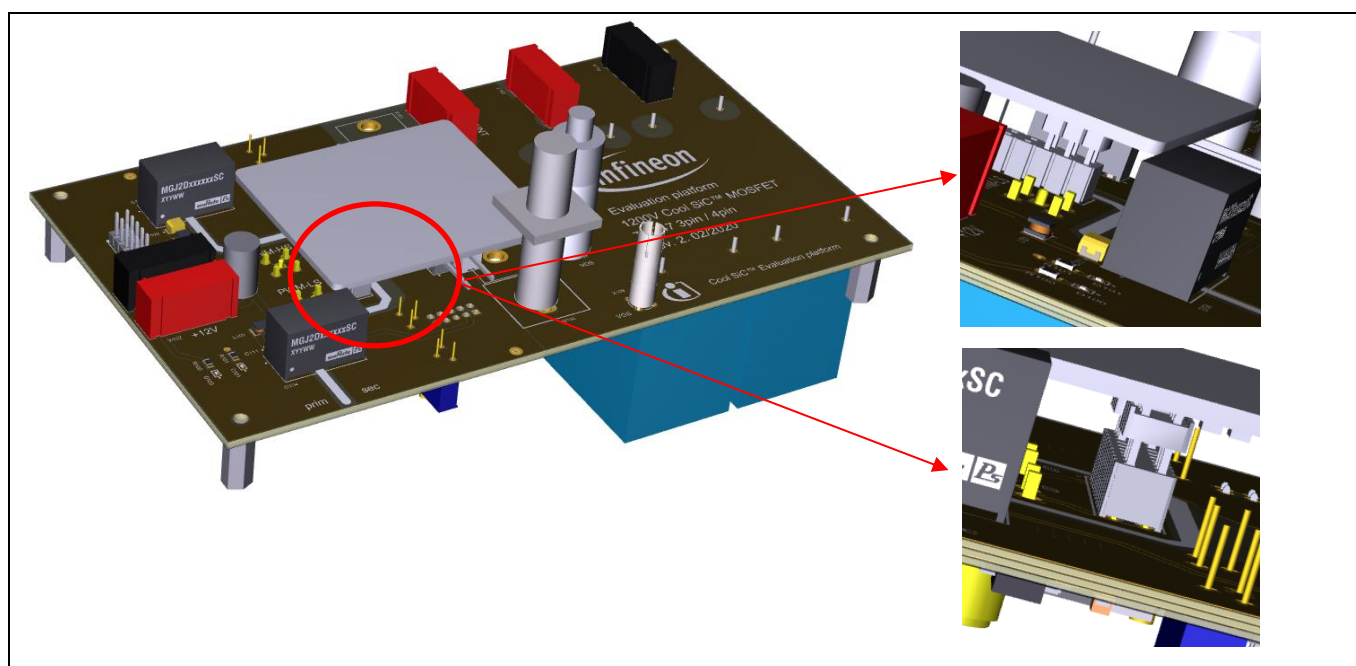

Figure 5 Install the daughter board onto the main board
Note: Make sure the pin-6 of X203 (or X303) on the daughter board mates the pin-19 of X100 on the main board, as indicated in Figure 5.
- The daughter board are installed correctly, as illustrated in Figure 5. Any mismatch of the pin headers and pin sockets may cause board damage.